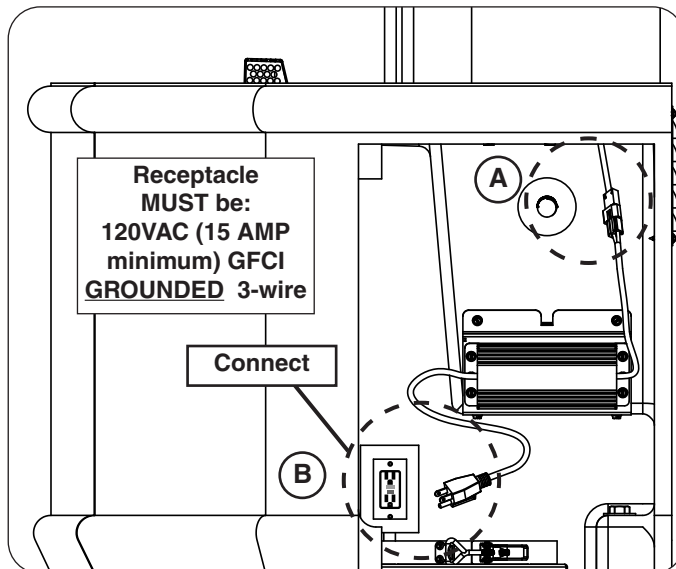

Fig. 32-1 Route and connect power supply wire and cord
1. Route the power supply wire (longer free wire coming from the control box) through the hole in the hearth and down to the power supply. Connect as shown in Fig. 32-1, A.
2. Connect the power supply cord to the previously wired **120VAC (15 AMP minimum) GFCI GROUNDED 3-wire receptacle** (see Fig. 32-1, B).